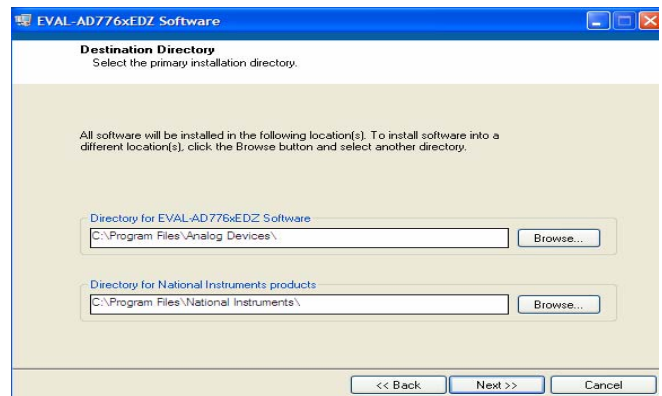

Figure 3. Choose the Destination of the AD7764/AD7765 Software
3. The destination directory can be chosen using the default clicking “Next” as shown in Figure 3). If a different location than the default is preferred, click **Browse** and select the desired location. When ready, click **Next**.